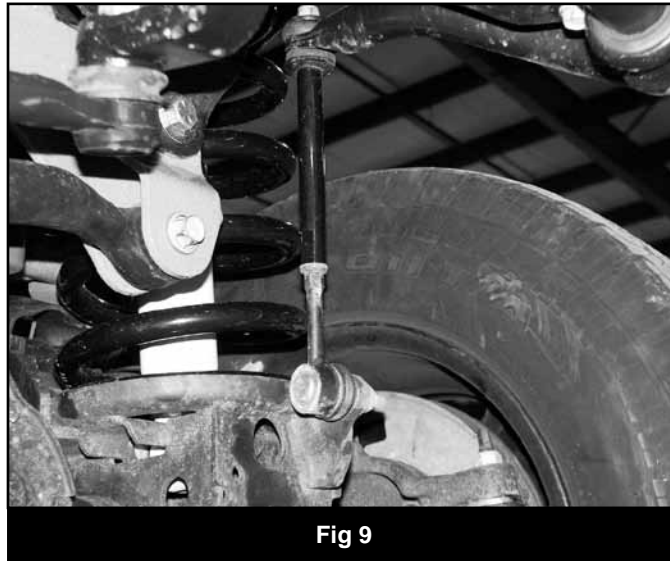

Fig 9
37. Apply loctite to the threads on the OE sway bar links. Thread the provided link extension (01249) on the OE links and tighten securely. Attach the extension to the sway bar with the OE washers, bushings and nuts. Tighten the nut until the bushings begin to swell. (Fig. 9)